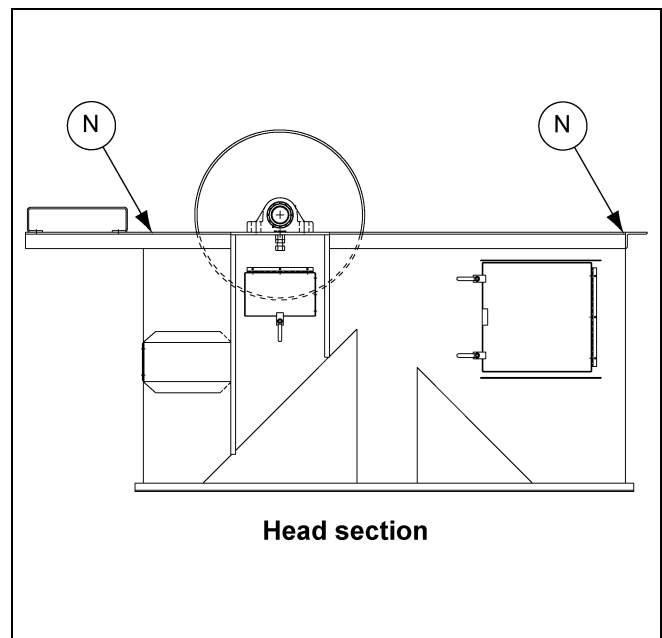

Figure 4G Lifting Hole Locations
6. The last elevator section to be lifted into position onto the elevator is **ALWAYS** the head section. (The hood is not assembled until belt and cup installation is complete.) Lift the head onto the top elevator section. (*See Figure 4G on Page 22.*) DO NOT install the hood at this time. Plumb the head section and fasten it to the elevator trunk.